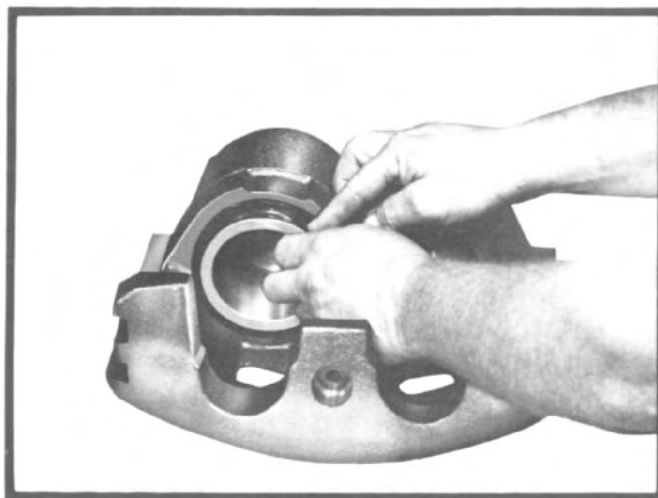

Fig. 26—Inspecting boot for cracks and cuts.
(1) Check the inside of the caliper for hydraulic fluid leak. If evidence of fluid leak is noted, the caliper should be overhauled.
(2) Wipe the inside of the caliper, clean and check the dust boots for cuts, cracks or other damage. If damage is noted the caliper should be overhauled. (Fig. 26)